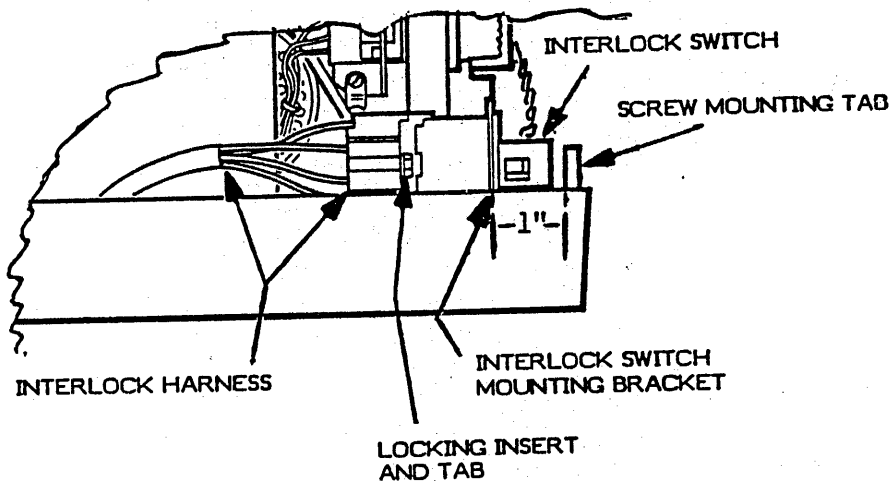

FIG. 3-27 INTERLOCK SWITCH
1. Placement of mounting bracket must be 1 inch away from top cover screw mounting tab. Tighten securing screw. (Refer to figure 3-27).